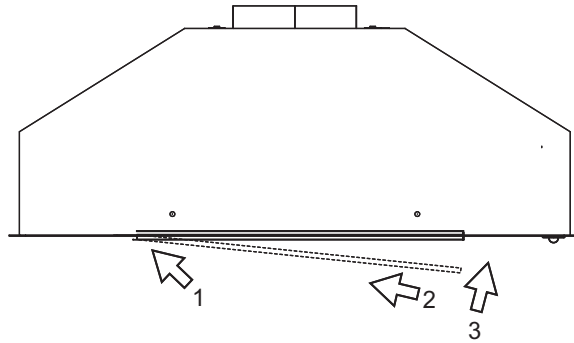

FIG. 4
**Installing the Baffle Filter, FIG. 4:**